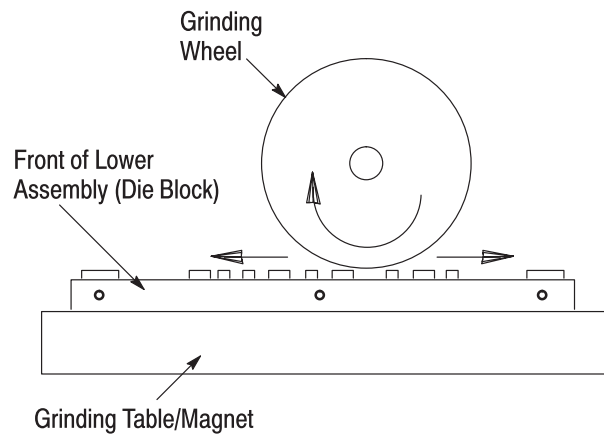

Figure 10
5. Sharpen by removing enough stock from the die bushing face to provide a clean, sharp, cutting surface (usually 0.050 mm to 0.127 mm [.002 in. to .005 in.]). See Figure 10.